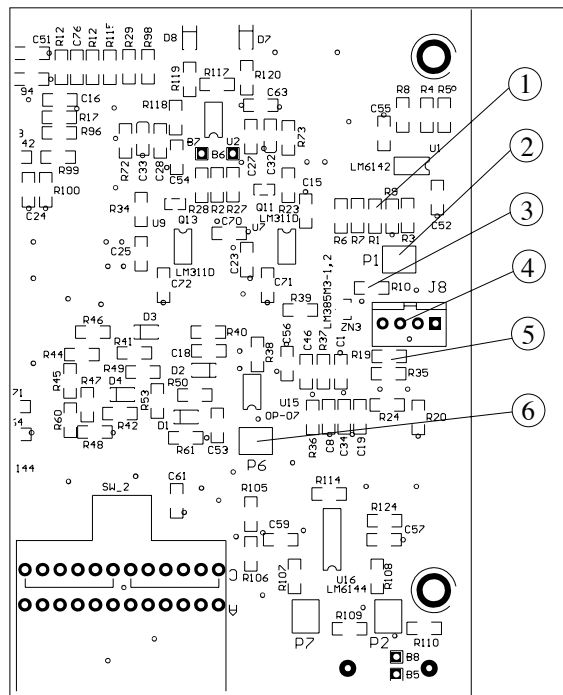

Figure 7.11.: TCU main board (zoom II).
4. Sensing level and range adjustment (refer to figure 7.11)
- a) Replace the cable connected to **J8** (4) with the $100\pm1\ \Omega$ resistor. *Note:* the precision (gold band on the resistor) is important. Connect one side of the resistor to pins 1 and 2, the other side to pins 3 and 4.
- b) Measure the voltage on **Zn3/R10** (3): the value should be $-V = 1.22$ to $1.25V$.
- c) Measure the voltage at the intersection of **R19/R35** (5): the value should be $V=100mV$, adjustable with the **P1** (2)) knob.